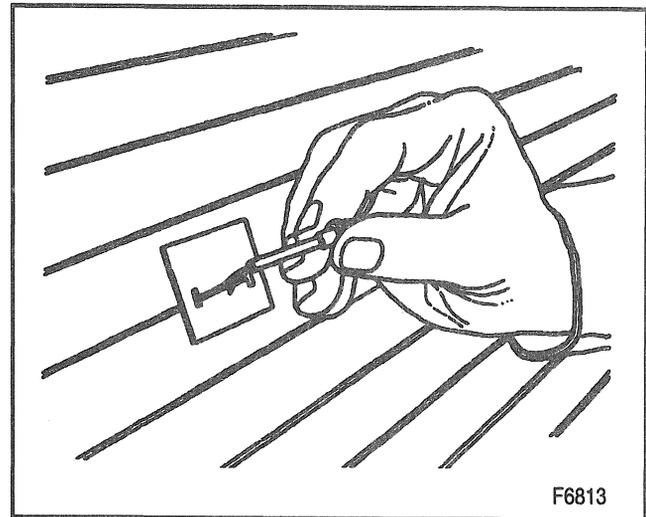

Figure 25—Apply Grid Material to a Broken Grid Line
- Move the lamp from the feed wire side to the grounded side of each grid. The lamp should be fully bright then gradually dim as it is moved across the grid. Be sure to check each grid line in at least two places to avoid the possibility of bridging a gap (Figure 25).
2. The grid repair material at room temperature to the repair area using a small brush (Figure 25).